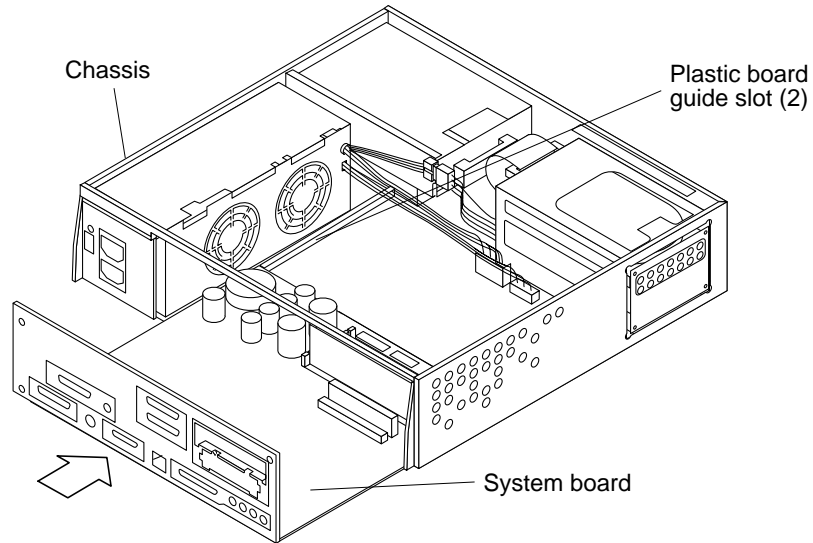

FIGURE 10-7 Sliding the System Board Into The Chassis
- 3. Slide the system board into the chassis rear. Verify that both sides of the system board fit into the chassis plastic board guide slots (FIGURE 10-7).**